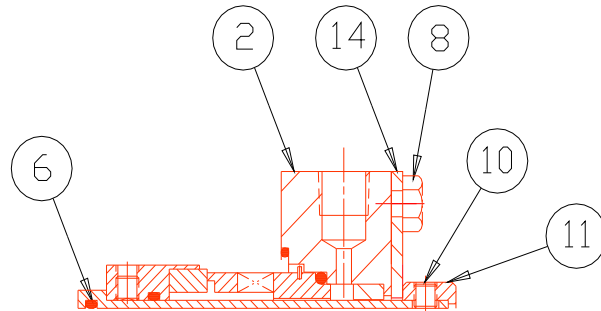

Figure 2 – Mechanical Cartridge Seal
7. Push keyway end of power rotor (34) into pump as far as it will go. Mount a dial indicator on inboard bracket (73 or 78) with indicator point resting on end of power rotor (34). Set indicator pointer to "zero". Pull power rotor (34) out from the pump until collar (42) contacts face of inboard bushing (45). Check dial indicator to determine total end float travel. Correct end float is 0.055 to 0.060 inches. If end float requires shim adjustment, remove cover (19) and shim (18). Remove or add shim lamination to obtain correct end float. Brass shims have 0.003 inch lamination. Steel shims require full face grinding of metal to reduce shim thickness. Faces of steel shims after grinding are to be smooth and parallel within 0.002 inch full indicator runout (FIR). If shims are removed for adjustment, install shim (18), cover (19), capscrews (20) and washers (21). Torque capscrews (20) to torque value on appropriate assembly drawing (figure 2 or 3). Remove dial indicator from bracket (73). Rotate power rotor (34) to check for any binding.
9. Install gasket (5) and rear cover (3) on cover (2) at back end of pump using capscrews (9) and washers (80) if pump is a 550J or nuts (26) and washers (79) if pump is an 800J. Torque capscrews (9) or nuts (26) to value on appropriate assembly drawing (figure 2 or 4).
- a. Clean and polish pump shaft. Make sure there are no sharp edges or rough spots on shaft to damage seal O-ring (6) during installation.
- c. Slide seal assembly on to shaft, make sure O-ring (6) is in seal sleeve o-ring groove.
- d. Secure seal flange (2) to pump seal housing with bolts ((9) if pump is a 800J or bolts (75) and washers (80) if pump is a 550J.) On this 550J bolts (75) also secure cover (63). Use caution not to damage gasket (5) during installation since it was not secured until this point. Torque bolts ((9) or (75)) to value on appropriate assembly drawings (fig 2 or 3).
- f. Secure set screws (10) to pump shaft.
- g. Loosen bolts (8), two each, and remove setting plates (14) from slot between drive collar (11) and seal flange (2). Remove setting plates (14) Tighten bolts (8) to keep setting plates disengaged during pump operation.
12. Install tubing (54) on inboard seal housing ((64) for 550J pump and (63) for 800J pump)) and outboard cover (2).
13. Install key (44), coupling hub and checknut (46). Lock checknut (46) in position by installing setscrew (43 or 61).